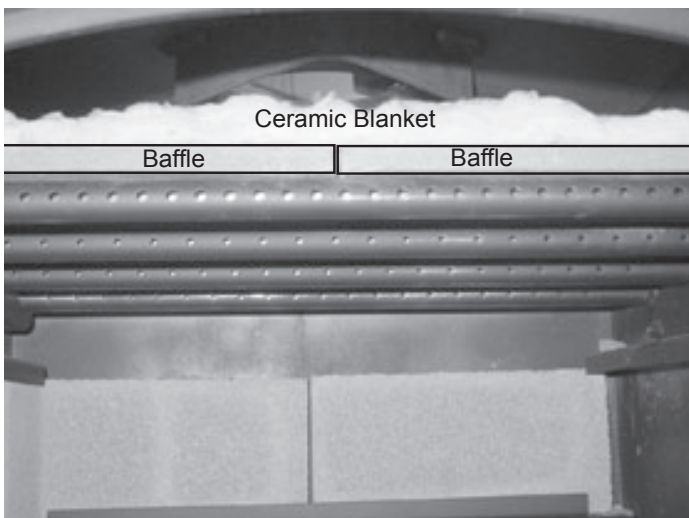

Figure 24.2
4. Re-install in reverse order. Be sure the baffle boards and ceramic blanket are in their proper positions. **Figure 24.2.**